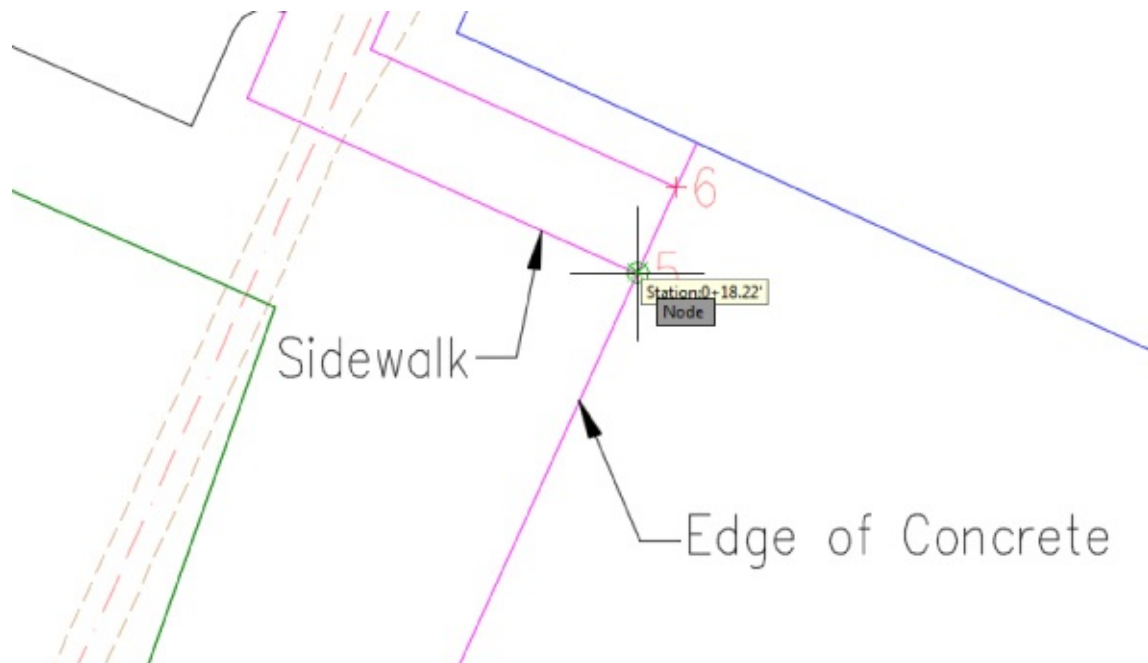

Figure 14.13 Using the node object snap to select a point
7. At the Specify first break point: prompt, using a Node Osnap, select the node of point #5, as shown in Figure 14.13.